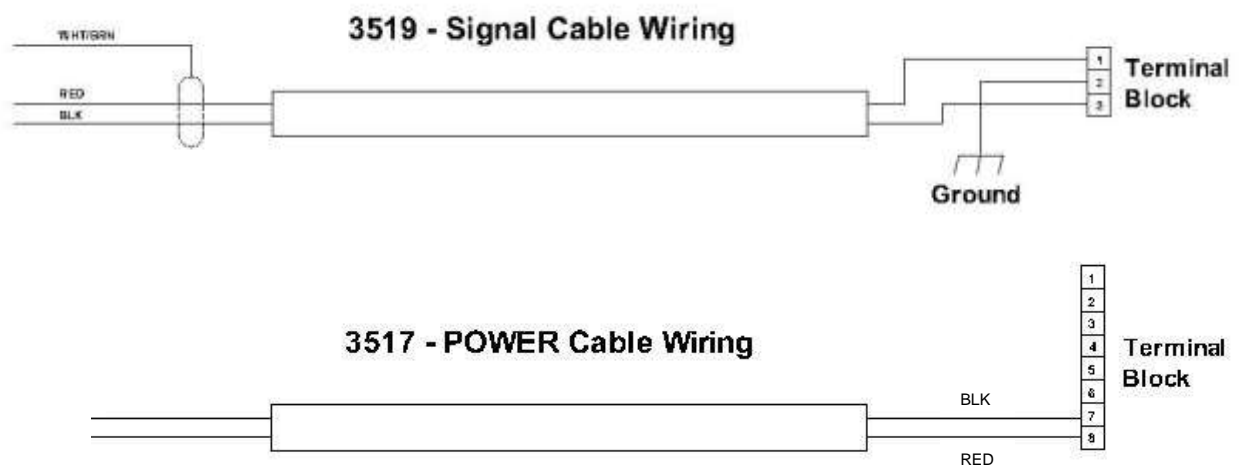

FIGURE 2.4: 3519 SIGNAL CABLE WIRING & 3517 HEATER POWER CABLE WIRING
5. Connect the #3519 Signal Cable & #3517 Heater Power Cable (if applicable). (Refer to Figure 2.4).